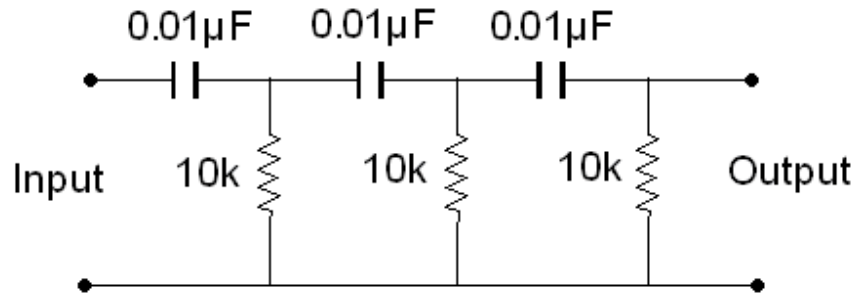

Fig. 1
3. Connect the circuit as shown in fig.1